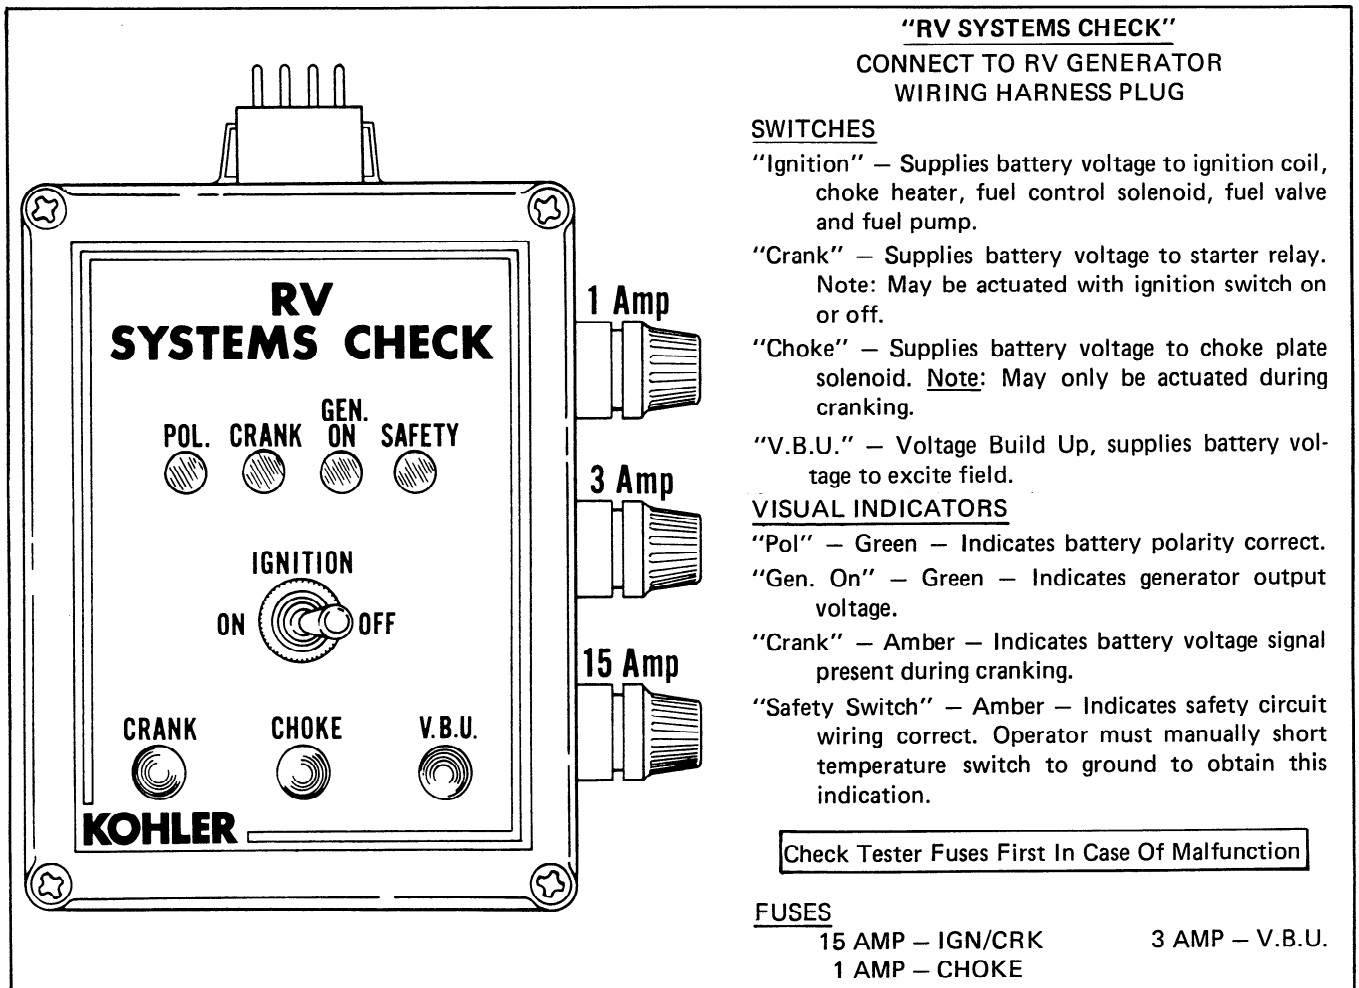

Figure 4-1. RV Systems Check
2. Check the three fuses in RV Systems Check tester (Figure 4-1). Replace any blown fuses.